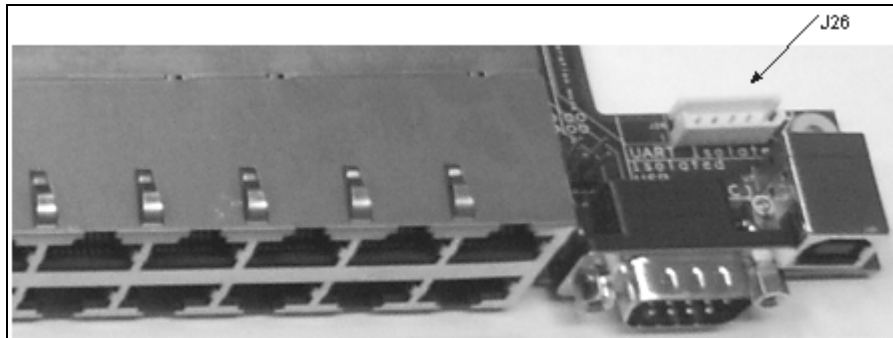

Figure 12: Isolated UART Interface
**8. Isolated UART Interface** (see Figure 12)